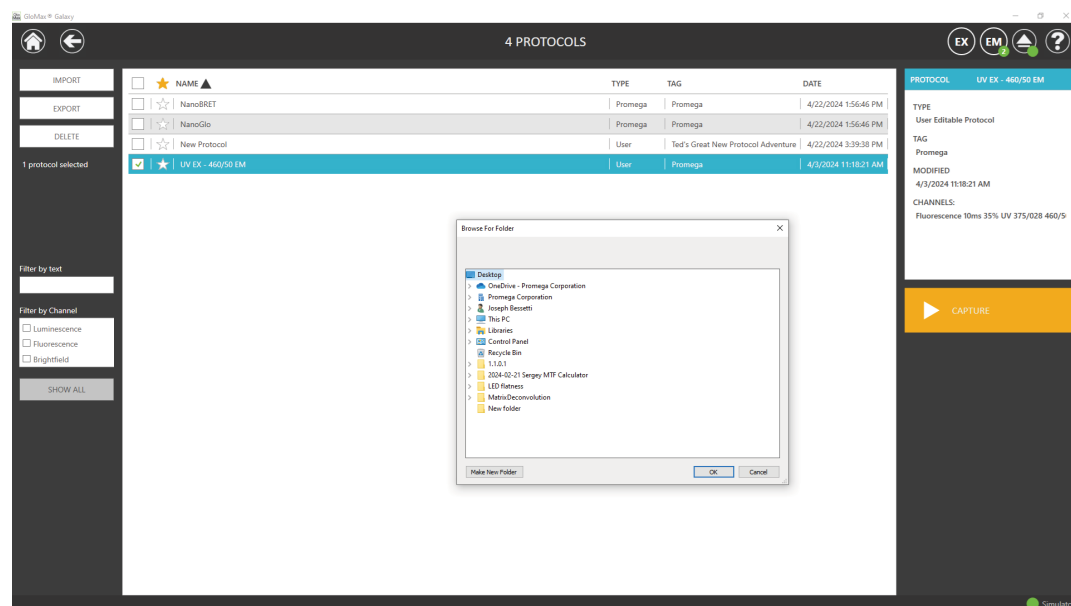

Figure 34. Export protocol 'Browse for Folder' window. When exporting protocol(s), select a folder location to save the exported protocol(s).
2. Press the **Export** button to export all selected user protocols from the software. A file browser is displayed (Figure 34). You can select the folder location where the exported protocol(s) will be saved. The current location is highlighted. Navigate to the desired folder location. Once a path has been defined, select the **OK** button to export the protocol(s) to the specified path, or select **Cancel** to return to the 'Protocols' screen without exporting.